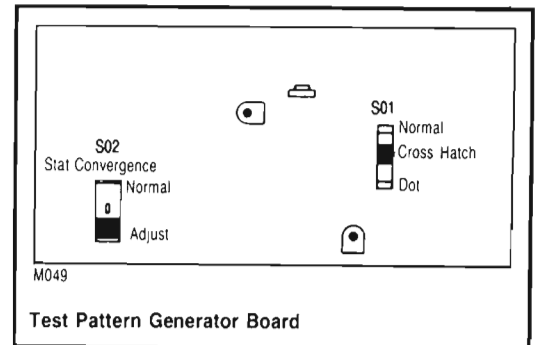

Figure 5
- G. Locate the test generator board (See Figure 7). Slide the "static convergence" switch, "SO2", (Figure 5) to the normal position. Slide "SO1", (Figure 5) to the normal, forward position.